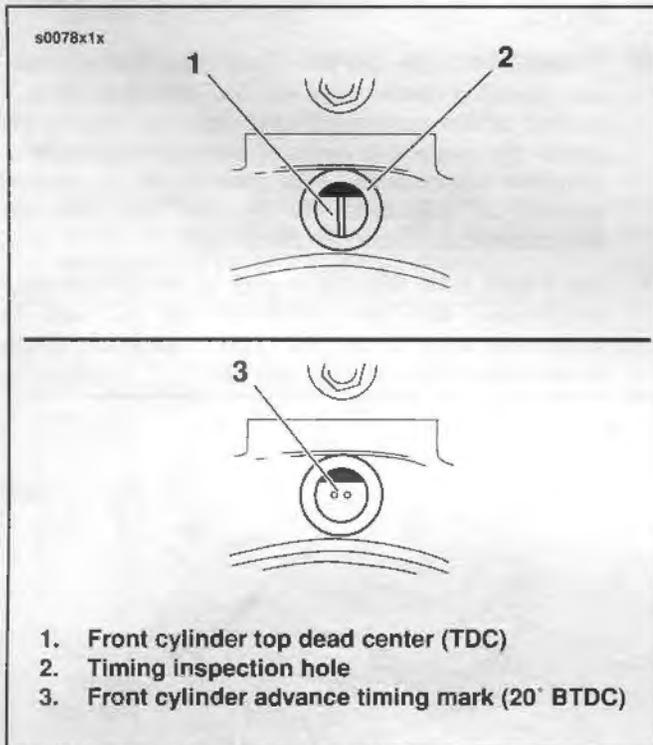

Figure 1-20. Ignition Timing Mark
4. See Figure 1-20. Aim timing light into timing inspection hole. Front cylinder advance timing mark should be centered in timing inspection hole.